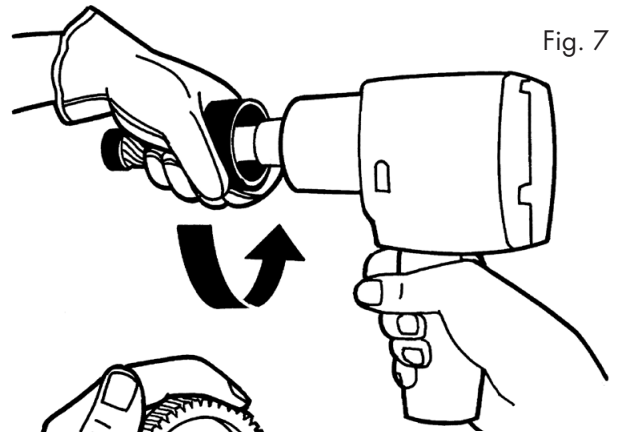

Fig. 7
2. Lift Drum and spur gear shaft out of casing. To replace Drum, hold tightly in gloved hand and spin off clutch nut in left hand rotation (normal RH thread) with air ratchet Fig. 7.